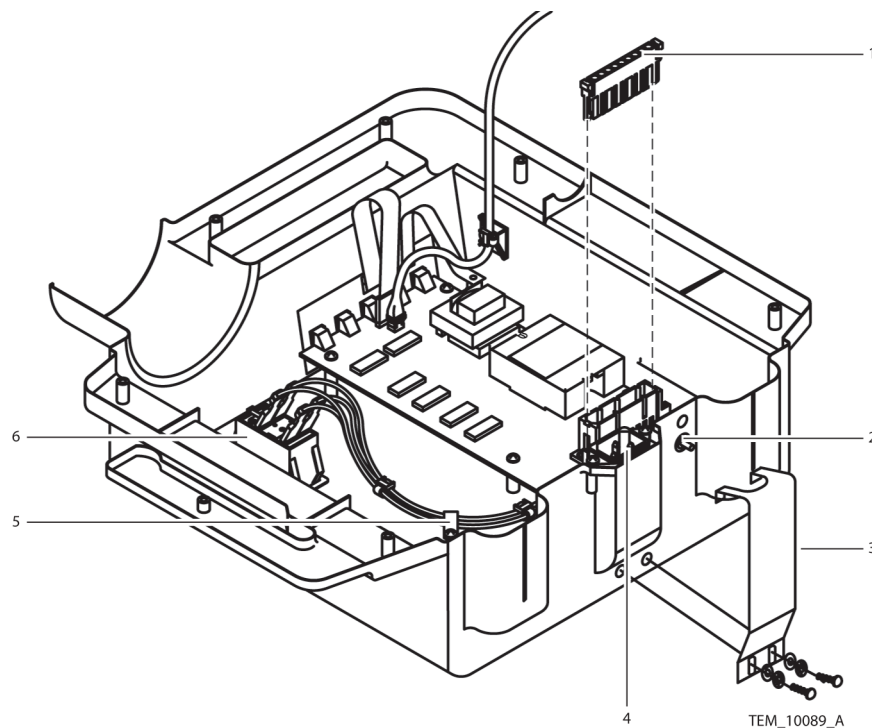

Figure 83. Front Cover Assembly
45. Connect the four wires to the power switch. Make sure to reconnect the wires in the same way they were connected before; refer to the list of wire colors and where they were connected to the switch, as recorded in Step 15. See Figure 83, item 6.
46. Install the cable clamp around the power switch wires (Figure 83, item 5).
47. Install the AC power connector into the front cover assembly. Tighten the screws to 4 to 6 in/lbs (10 to 15 cm/kg). See Figure 83, item 4.
48. Connect the 9-pin connector to the Control PCB (Figure 83, item 1).